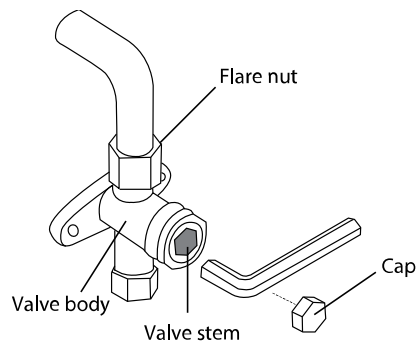

Fig. 24 —Service Valve Diagram
2. For size 18, **DO NOT** open the Gas or Liquid service valves until the evacuation is complete. For sizes 24-48, fully open all the connected individual service valves (with the line set attached). **DO NOT** open the Master Service Valves until the evacuation is complete (see Fig 24).
9. Insert a hexagonal wrench into each Gas Side Service Valve for size 18 or into the Master Gas Side Service Valve for sizes 24-48 and open the valve by turning the wrench 1/4 counterclockwise. Listen for gas to exit the system (see Fig. 24).
12. Using a hexagonal wrench, fully open all the gas and liquid service valves for the size 18 and all the Master Gas and Liquid service valves for sizes 24-48 (see Fig. 24).